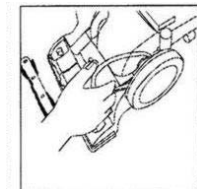

Fig. 11
- Place one end of new belt over motor shaft and the other on the round pulley end of the beater bar. (Fig. 11)